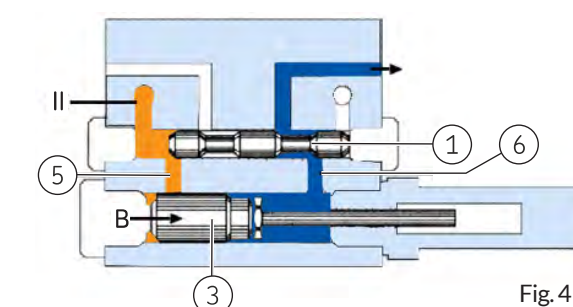

Fig. 4
Once the control piston (Fig. 4/1) has freed up the duct (Fig. 4/5), the lubricant moves in front of the left-hand face of the delivery piston (Fig. 4/3) and moves that piston to the right in the direction of the arrow (B). The lubricant in front of the delivery piston is supplied through the duct (Fig. 4/6) to the lubrication point. After the delivery piston reaches its end position, the pressure in main line II continues to rise until the changeover pressure set for the dual-line system is reached.